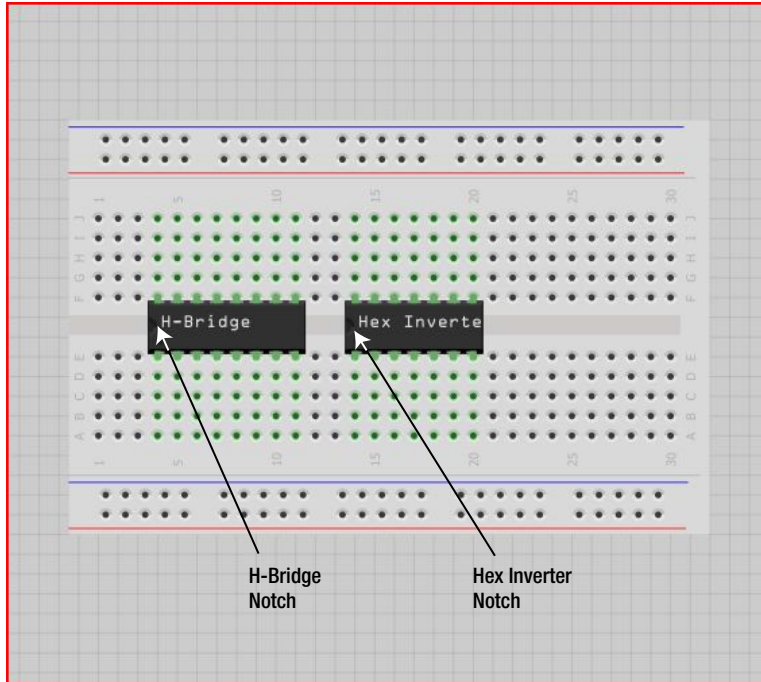

Figure 31-8. Attach the H-bridge and hex inverter to the breadboard
7. Attach the H-bridge and the hex inverter to the breadboard. The H-bridge starts with pin 1 (of 16) inserted at E-4, and the pins on its other side start at F-4. The hex inverter starts with pin 1 (of 14) at E-14 and the pins on the other side at F-14. Figure 31-8 illustrates this process. Notice in Figure 31-8 that the notch on the chips is pointing to the right and pin 1 is on the lower left.